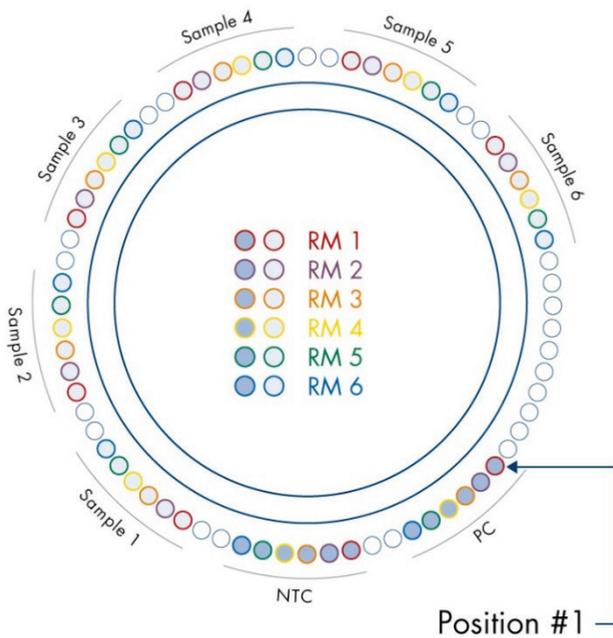

Figure 5. Plate and rotor setup for an experiment with the PIK3CA RGQ PCR Kit.
10. Place all PCR 4-strip tubes into the appropriate positions of the 72-well rotor according to the run layout (Table 4 and Figure 5). Take extra care to ensure that tubes will be transferred to the correct positions in 72-well rotor (tube position in 72-well rotor should be the same as tube position in the loading block).
Tubes must be inserted into the rotor as indicated in Figure 5 as the automated analysis set in the Assay Profile is based on this organization. If a different layout is used, aberrant results will be obtained.